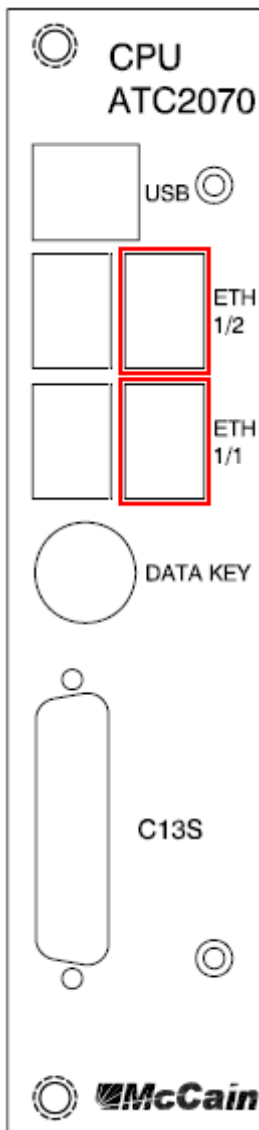

Figure C- 31: Ethernet Test 1
- Connect **ETHERNET CABLE (M59824)** into the **PORT2** and **PORT 1, SLOT 1** connector, (Figure C- 31: Ethernet Test 1 and Figure C- 35: Ethernet Test Step 2).